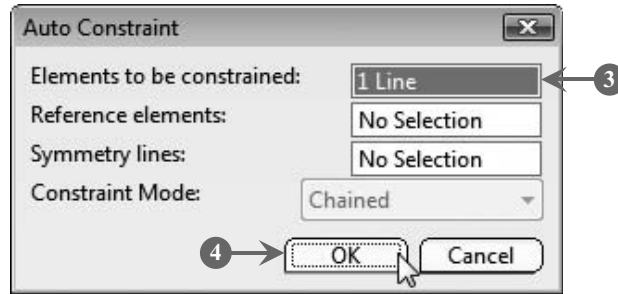

FIGURE 2.85
The **Auto Constraint** dialog box opens (**Figure 2.85**).
3. *Select* the sketch on which the auto constraint will be added. The selected sketch is added to the dialog box. In our case, we have selected the element to be constrained and 1 Line appears in the dialog box (Figure 2.85).
4. Click the **OK** button in the **Auto Constraint** dialog box, as shown in Figure 2.85: